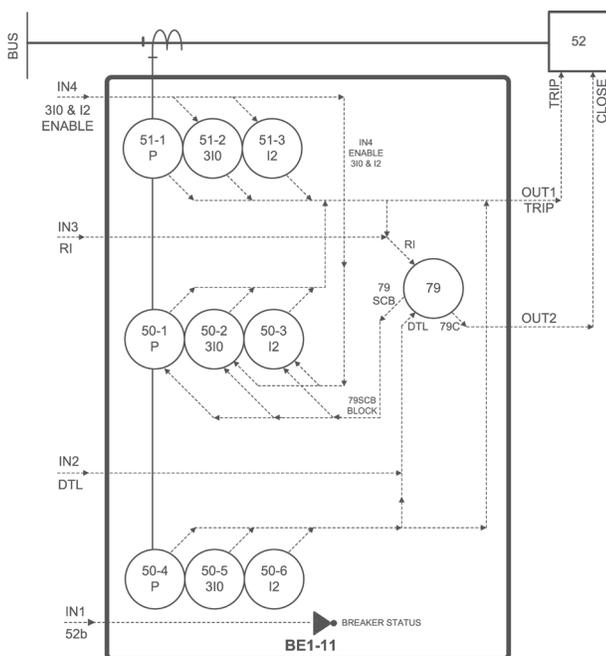

Figure 1 - System Reference Drawing
This guide is a walkthrough of the *Overcurrent Protection with Reclosing* BESTspace and logic scheme. The logic scheme provides protection for the system represented by the one line diagram shown in Figure 1. The logic scheme contains three time overcurrent and and total of six instantaneous overcurrent elements. Automatic reclosing is included and is initiated (RI) by a protective trip or by an external reclose initiate contact. Breaker